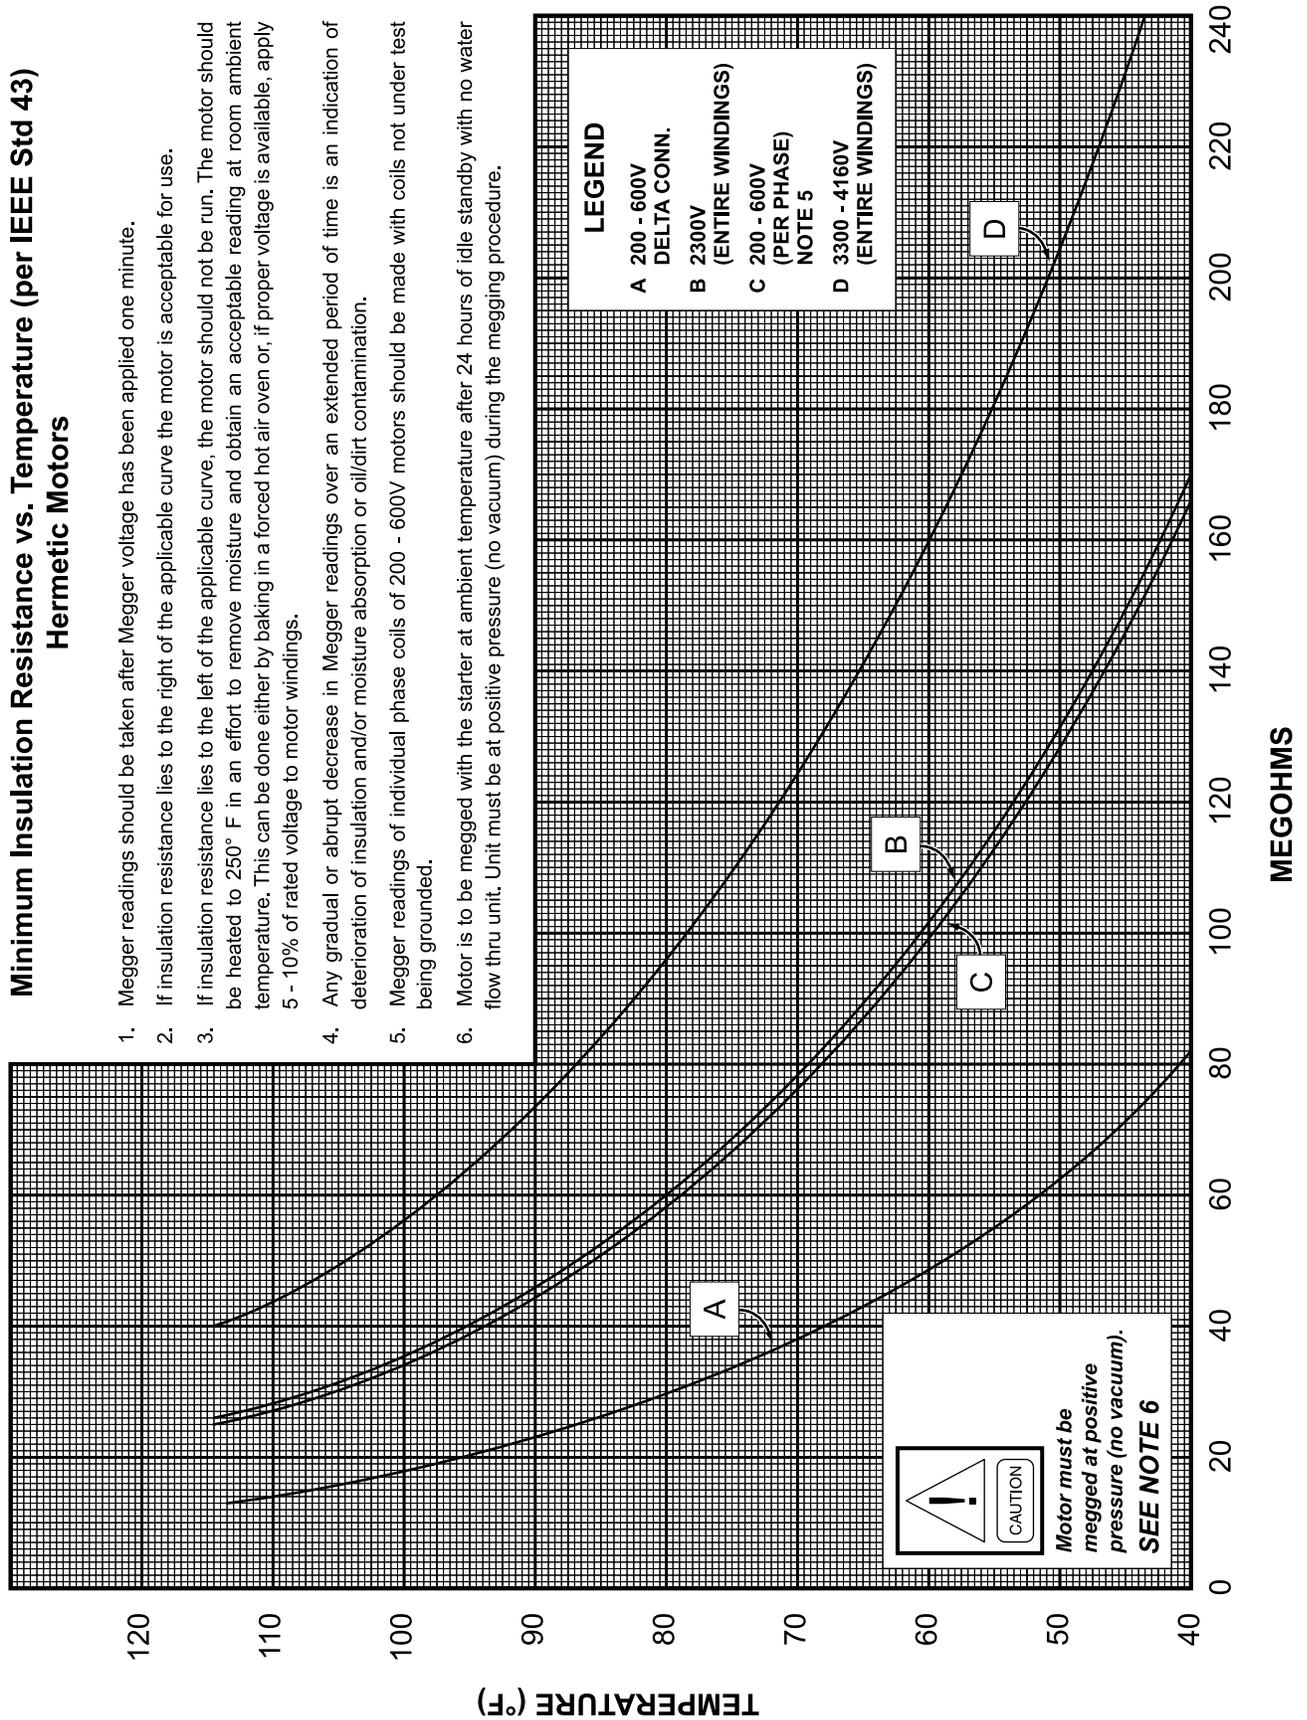

FIGURE 13 - MOTOR STARTER TEMPERATURE AND INSULATION RESISTANCES
1. Using a megohm meter (megger), meg between phases and each phase to ground (refer to *Figure 12 on Page 26*). These readings can be interpreted using the graph shown in *Figure 13 on Page 27*.